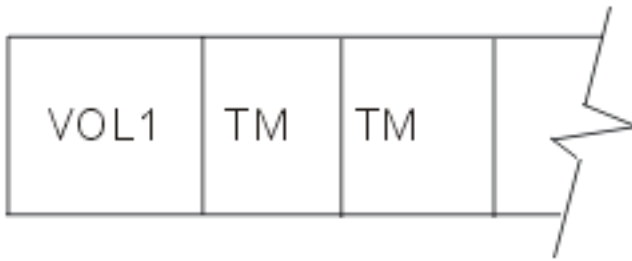

Figure 3. Volume Label and Tape Marks
In Figure 3, the INZTAP command gives the tape a volume label (marked VOL1) and writes two tape marks (TM).